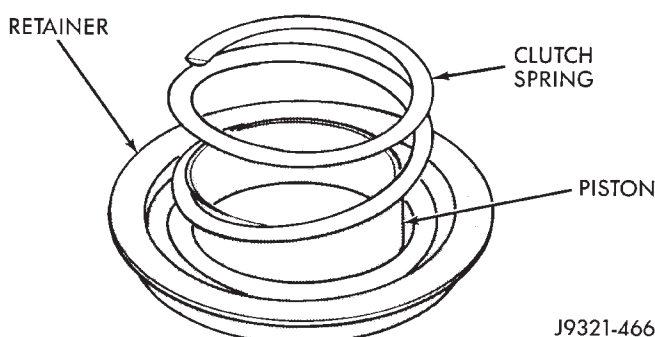

Fig. 62 Clutch Piston Spring Installation
(5) Position spring in clutch piston (Fig. 62).